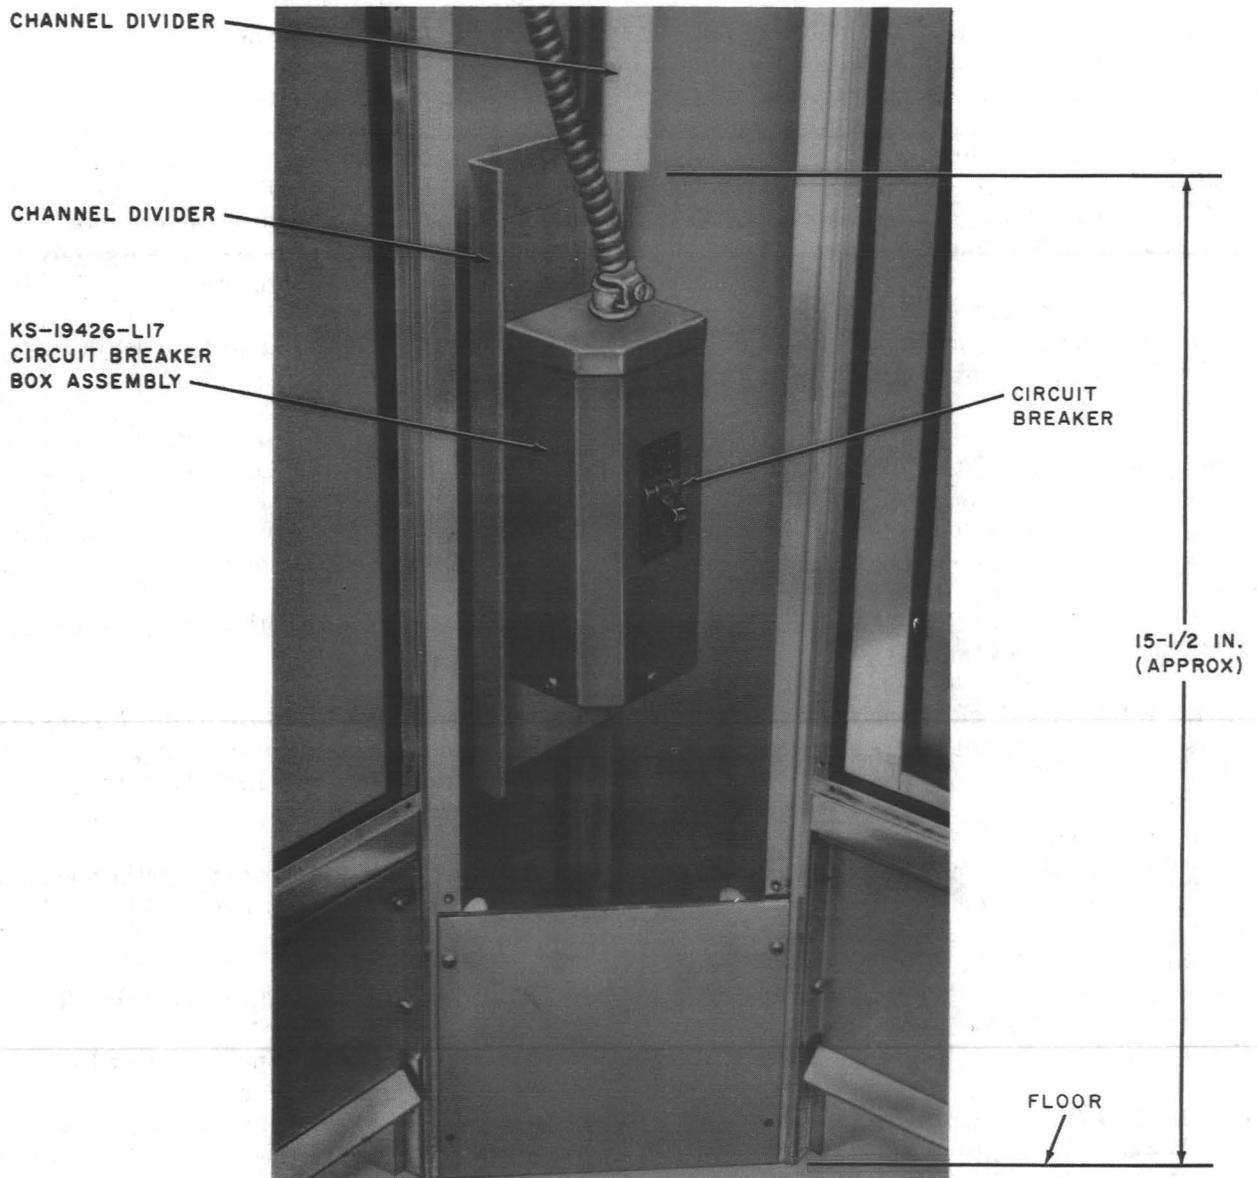

Fig. 20—KS-19426, List 17 Circuit Breaker Box Assembly, Installed
- (1) Remove corner panel below coin telephone set to make work area accessible (Fig. 20).
- (a) Using an appropriate saw, cut the channel divider horizontally at a distance of 15-1/2 inches from floor (Fig. 20).